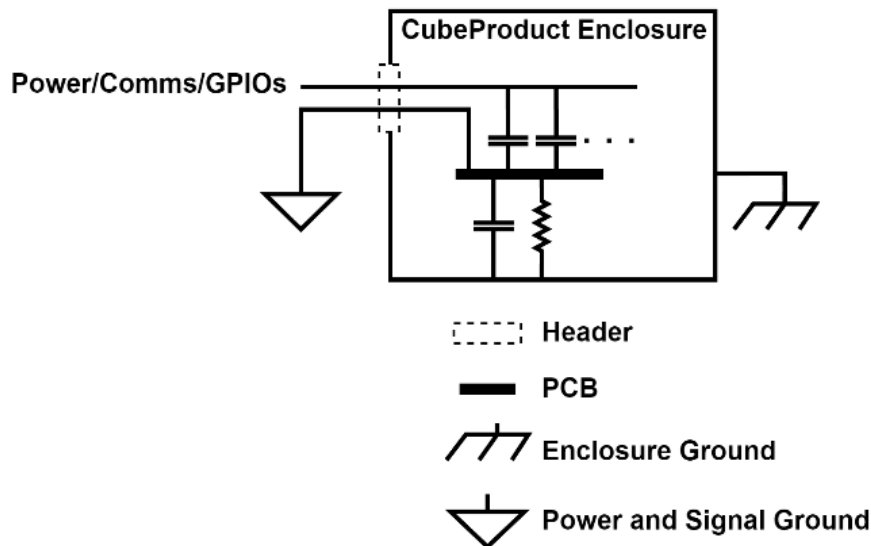

Figure 47: Generic Grounding Diagram
The enclosure and mechanical parts of CubeADCS are connected to the power and signal ground through a filter designed to minimise EMI, as illustrated by Figure 47. The user can ground the enclosures of the CubeADCS Core and the sensor and actuator nodes if desired.
- All pins that are externally exposed through headers are filtered by way of a 100pF decoupling capacitor to signal ground as shown in Figure 47.